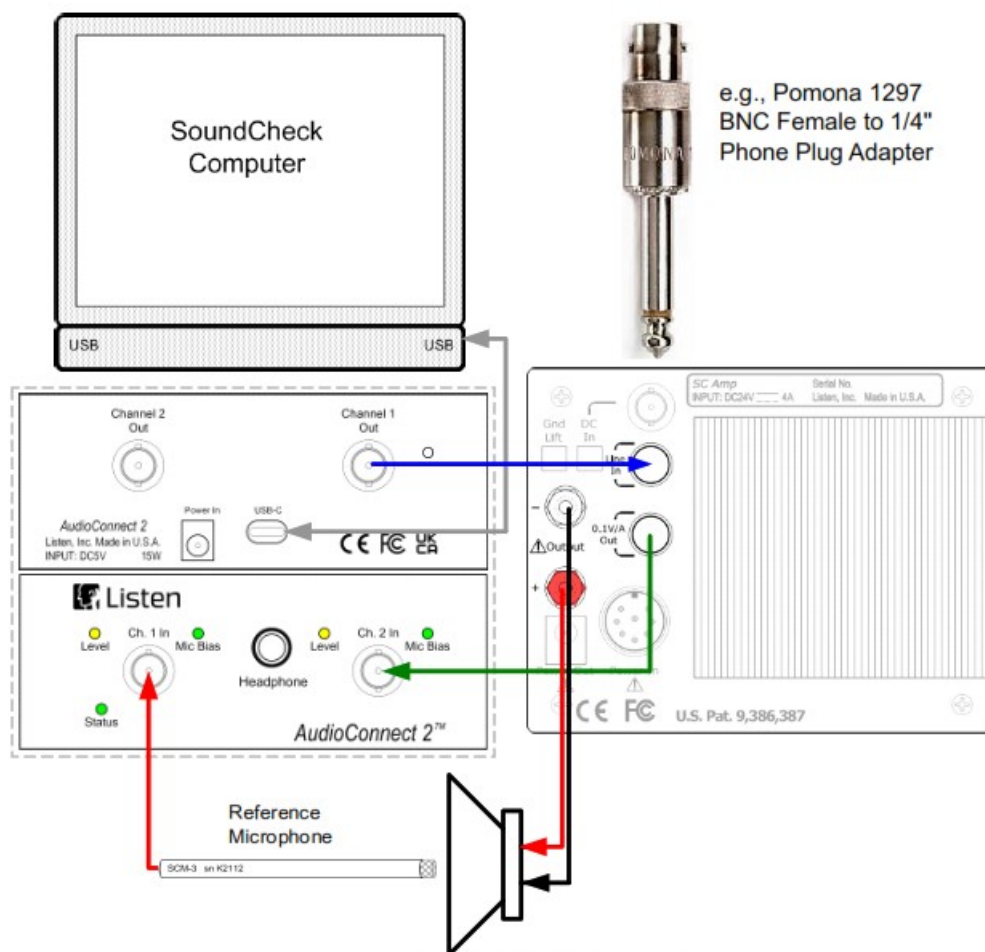

Figure 2-19: Loudspeaker Test
- SC Amp 0.1 V/A – Impedance Interface Output to Audio Connect 2 Input 2: Typically uses a 1/4" phone plug to BNC adapter and a BNC to BNC Cable. (See Figure 2-19)